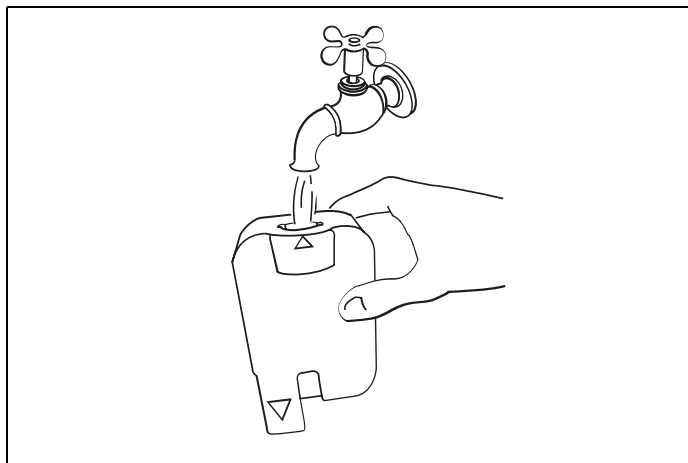

Fig. 54
- Rinse inside the froth adjustment dial seat (Fig. 54) and the milk frother connector hole using running water.